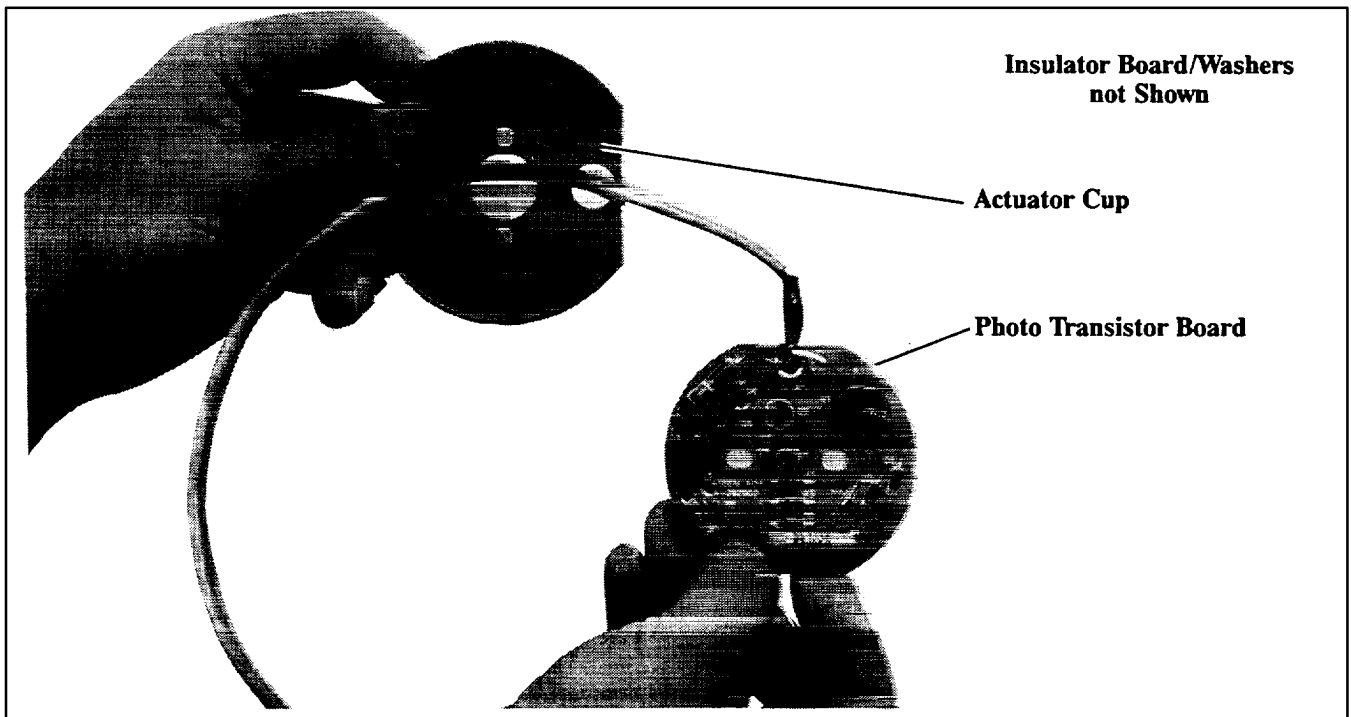

Figure 4. Installing Photo Transistor Board
11. Place photo transistor board lead through actuator cup as shown in Figure 4. Route the photo transistor board lead through hole in rotor shaft and then through exciter laminations to exit near the SCR assembly.